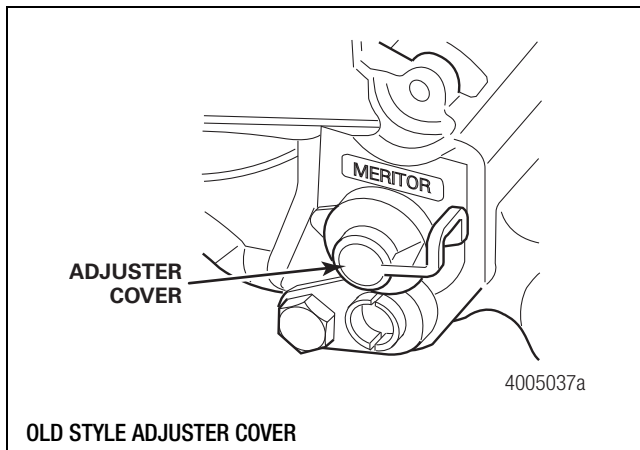
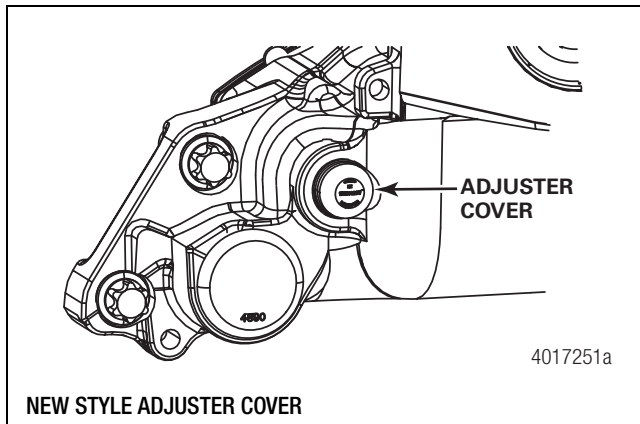

Figure 6.10
Figure 6.11
1. Remove the adjuster cover from the caliper assembly. Figure 6.10 and Figure 6.11.